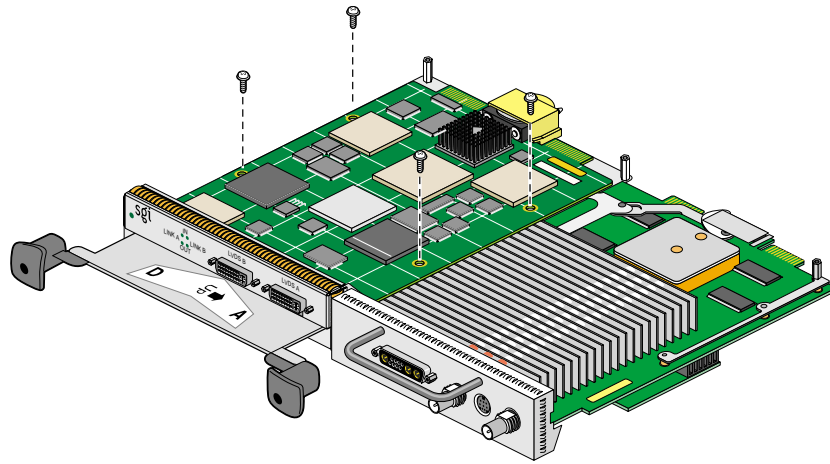

Figure 2-14 Installing the Screws
4. Install the screws, tightening the board to the standoffs, as shown in Figure 2-14.